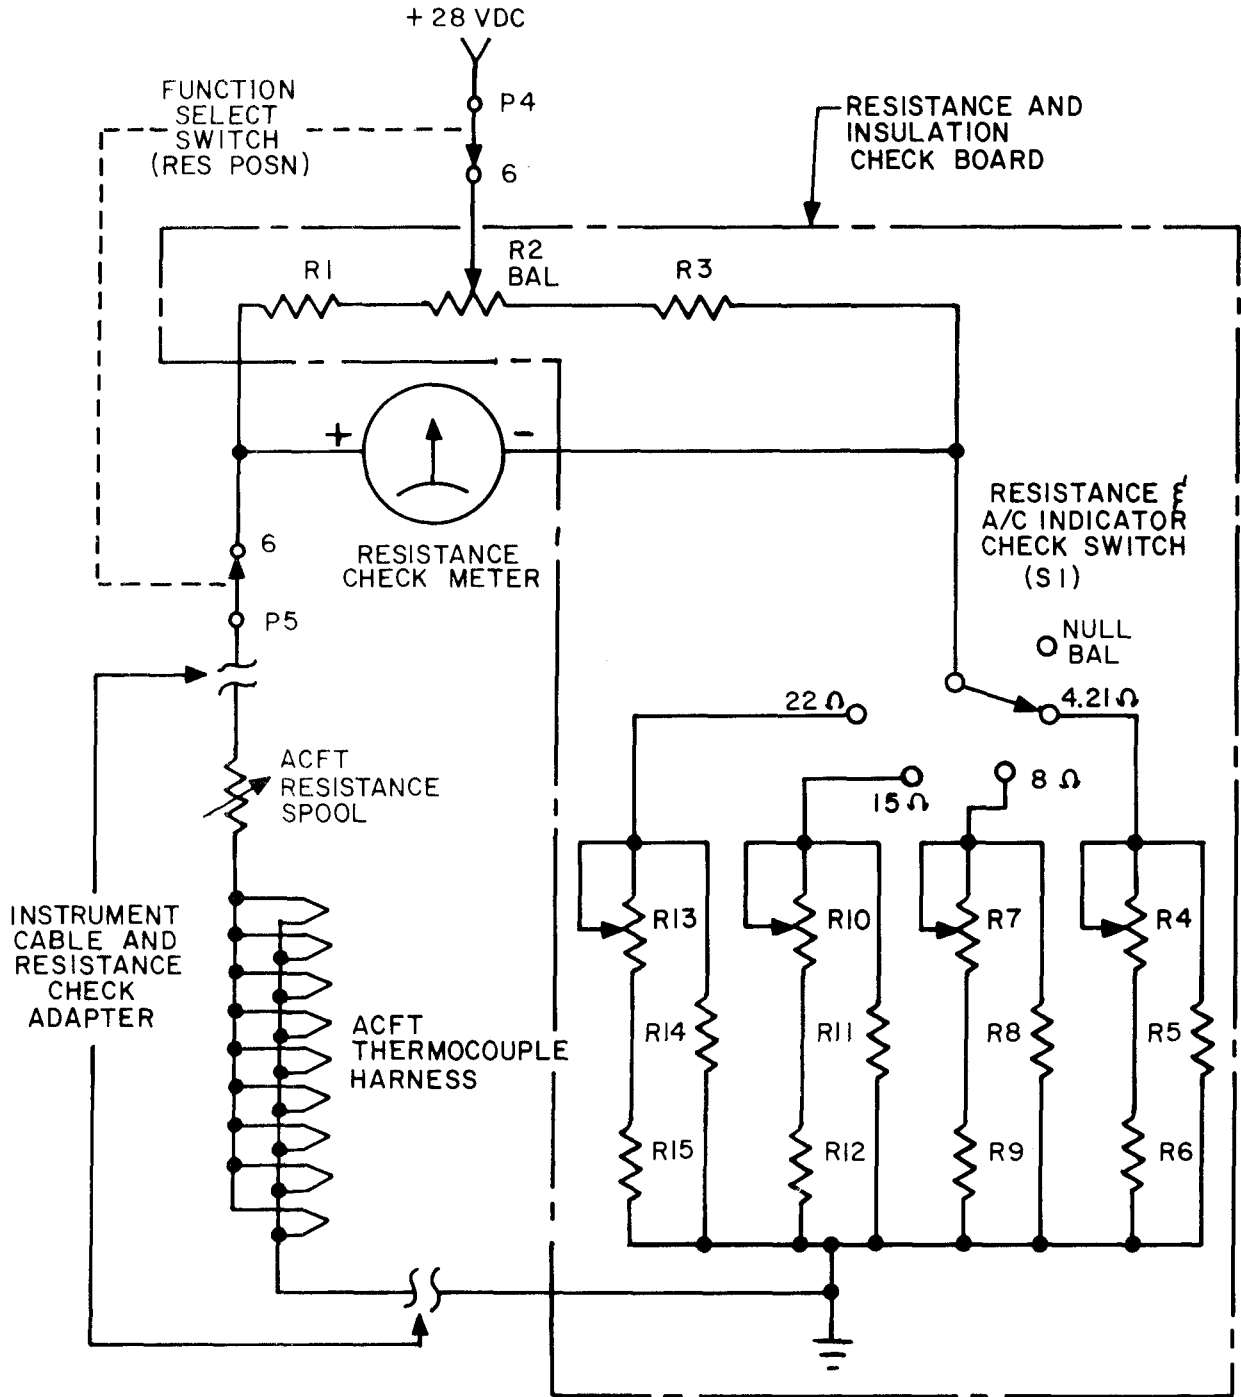

Figure 1-24. Resistance Check Circuit (Simplified Schematic).
(9) **Resistance Check Circuit.** This circuit (fig. 1-24), located in the probe controller, is used to check and adjust the resistance of the aircraft thermocouple circuit. It consists of a Wheatstone bridge with the RESISTANCE CHECK meter serving as the galvanometers. One leg of the bridge contains a precision wirewound resistor that is selected with the RESISTANCE % A/C INDICATOR CHECK switch. The aircraft thermocouple circuit (less the indicator) is placed in the other leg of the bridge. The aircraft resistance spool is then adjusted until the galvanometer is balanced.
resistance check circuit (fig. 1-24) and the heater probe power relay (fig. FO-1).